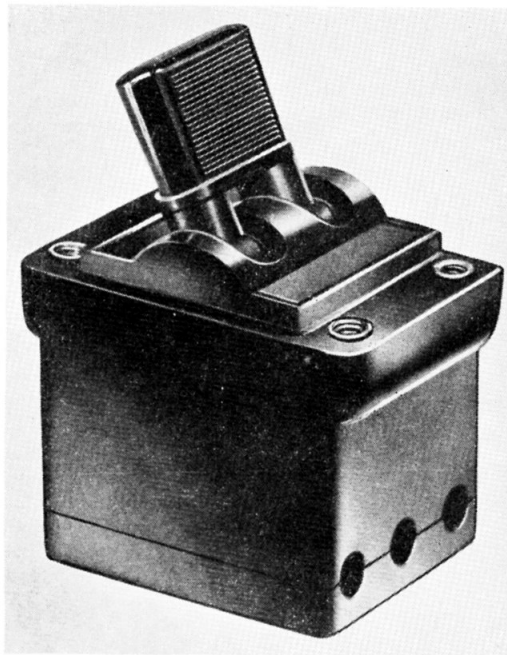

Fig. 1. Type 8B, No. 1 switch
3. The moving contact arrangement comprises two contact arms arranged side by side. Both arms are pivoted in the middle and have a contact at each end. Corresponding to these four moving contacts are four fixed contacts recessed in the base moulding. Each contact arm is actuated by a lever and cam movement and the switch dollies are strapped by a moulding (*fig. 1 and 2*) so that both contact arm mechanisms move together.
4. The Type 8B, No. 1 (*fig. 1*) is described in para. 2 and 3. The illustration shows a switch without rubber grommets for the connecting leads. These grommets, which are normally fitted, may be removed when necessary.